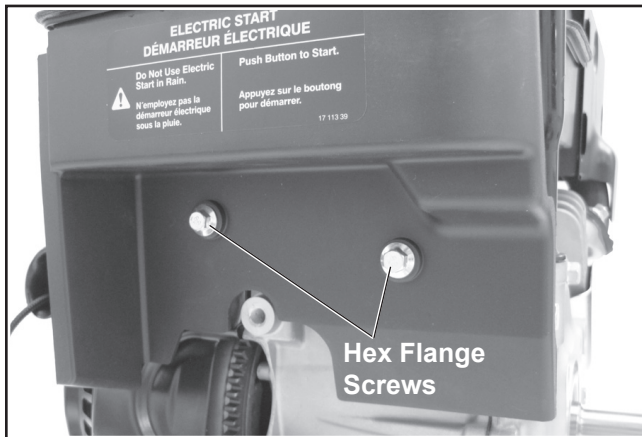

Figure 14. Remove Cover Hex Flange Screws.
1. Remove the hex flange screws securing the engine extension cover, and remove the engine extension cover. See Figure 14.